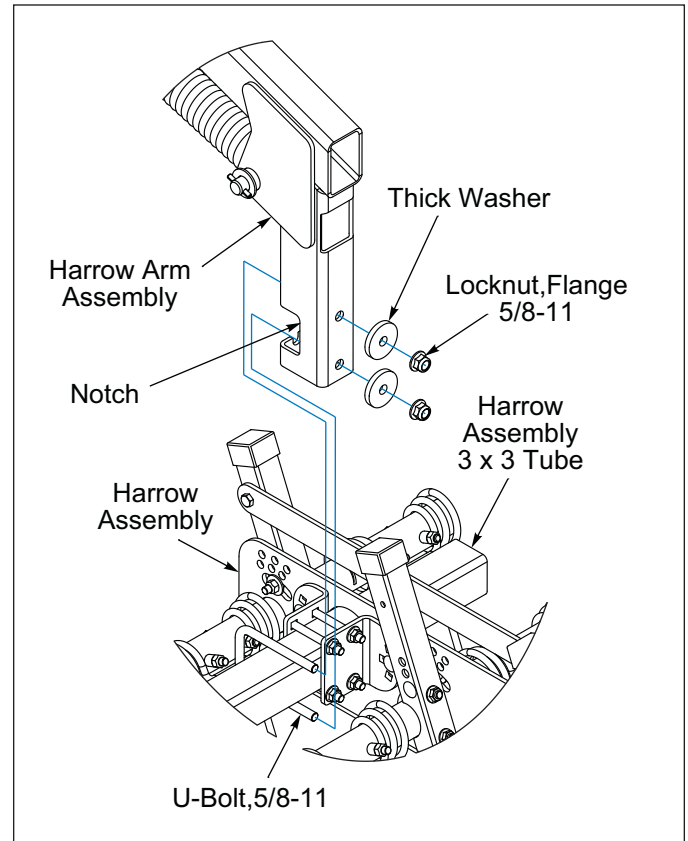

Figure 2-84: Harrow Assembly to Harrow Arm
3. Attach the Harrow Assemblies to the Harrow Arm Assemblies by placing the Harrow Assembly 3 x 3 tube into the Arm Notch. Position 5/8-11 U-Bolt onto 3 x 3 tube and through the Harrow Arm Assembly. Secure with Thick Washers and Flange Locknuts. See **Figure 2-84**.